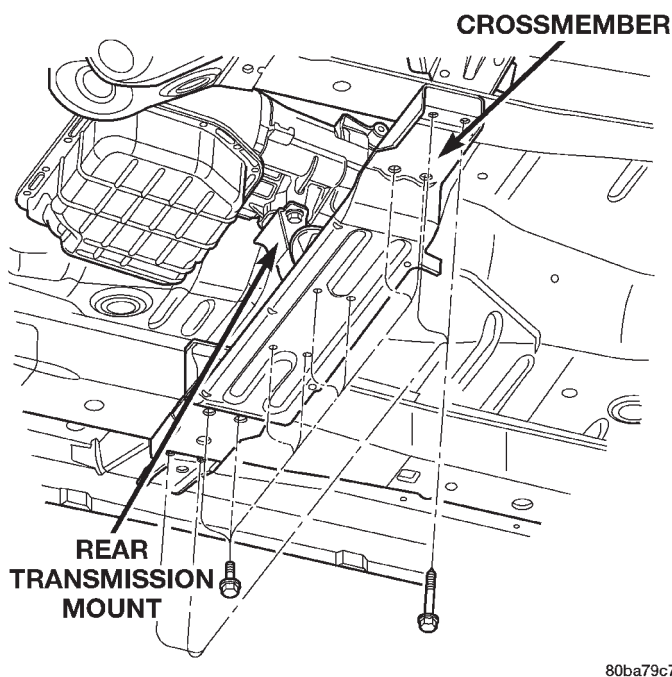

Fig. 3 Crossmember Removal/Installation
- (1) Shift transfer case into Neutral.
- (2) Raise vehicle.
- (3) Remove transfer case drain plug and drain transfer case lubricant.
- (4) Mark front and rear propeller shaft yokes for alignment reference.
- (5) Support transmission with jack stand.
- (6) Remove rear crossmember and skid plate, if equipped (Fig. 3).